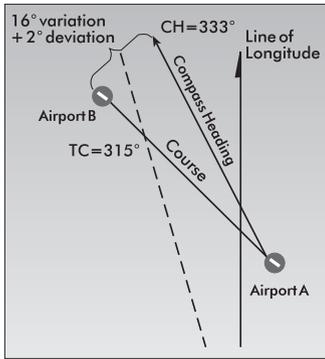

Figure 14 *Factor in the deviation and variation to determine the compass heading.*
8. Compute wind correction angle using a flight computer, and add or subtract it to find true heading.	$333^\circ + 5^\circ = 338^\circ$ (see figure 14)